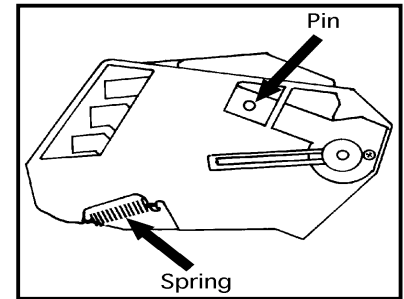

Figure 1
1. Separate the waste bin/OPC unit and the toner hopper unit (2 pins, 1 spring Figs. 1 & 2).